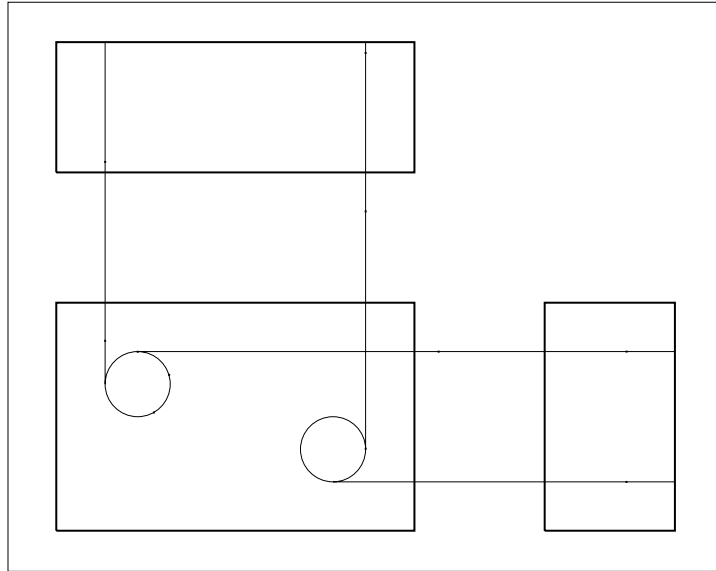

Figure P3-10 Completed drawing of construction lines
STEP 8: Draw the other three construction lines using the same method as Step 4, above, and Figure P3-10 for reference points:
The design should look like Figure P3-10.